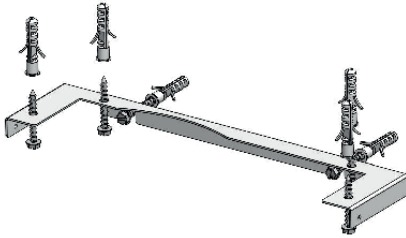

Fig.11
- › Fix the bracket to the wall using the screws supplied (Fig.11).